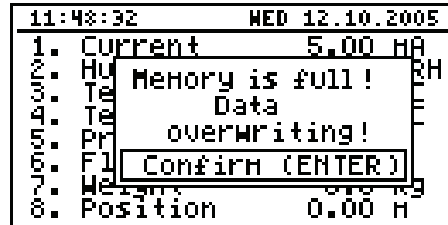

Fig. 7.16. Warning in “cyclic” recording mode
- "cyclic"** - after filling all the available memory with recorded measurement results, the measurement results recorded next will be written from the starting address in the memory, overwriting previously recorded data. During the first overwriting operation a warning message (Fig. 7.16) will be displayed; this message must be confirmed with the [ENTER] key. This warning shall be repeated when the unit is switched on. Instead of **"Time left"** parameter in the **"Device information"** menu the display will show the **"Data overwriting"** message.